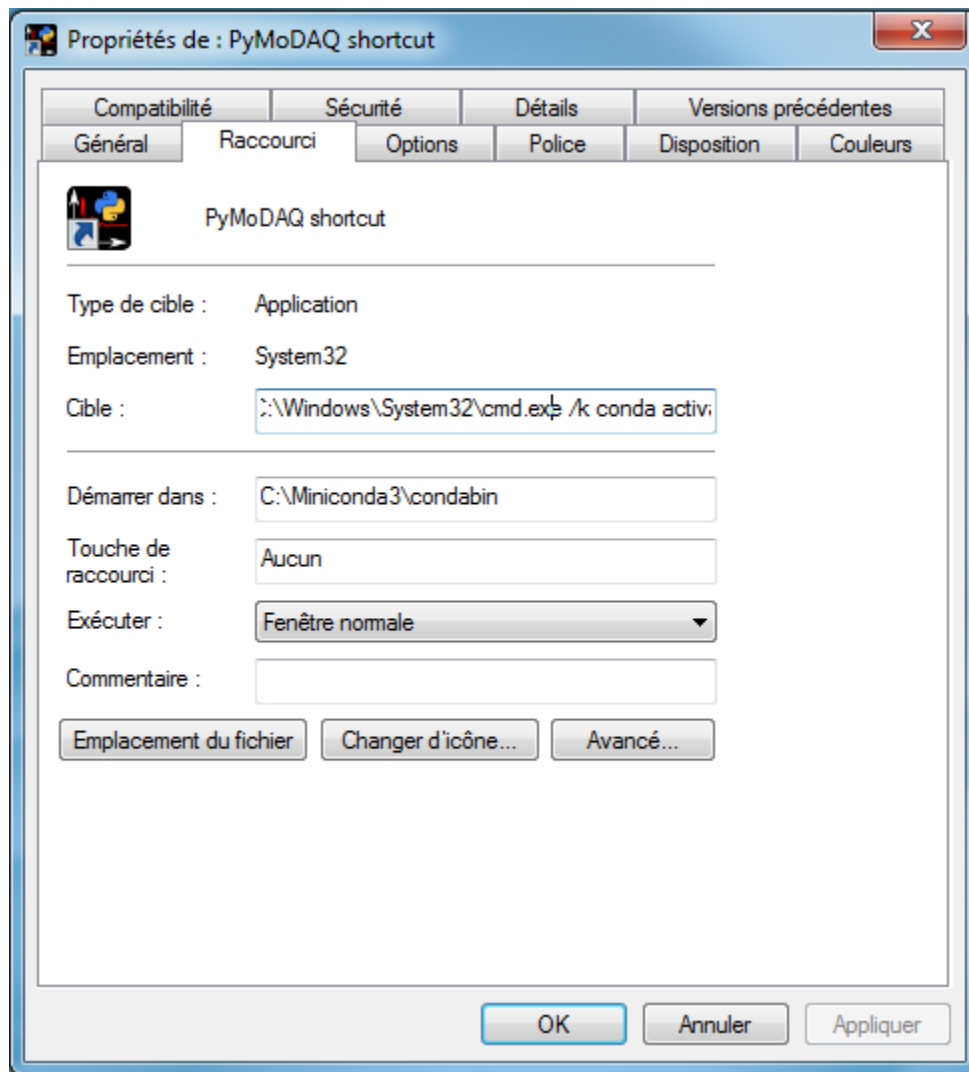

Fig. 7.6: Shortcut properties
- Right click on it and open its properties (see Fig. 7.6)